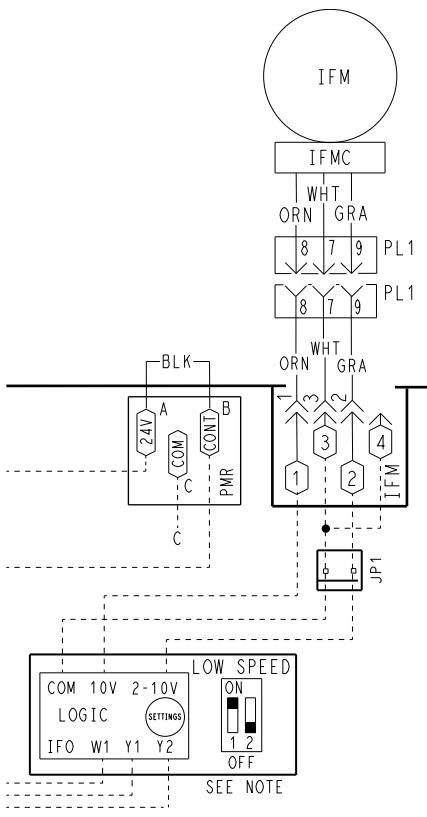
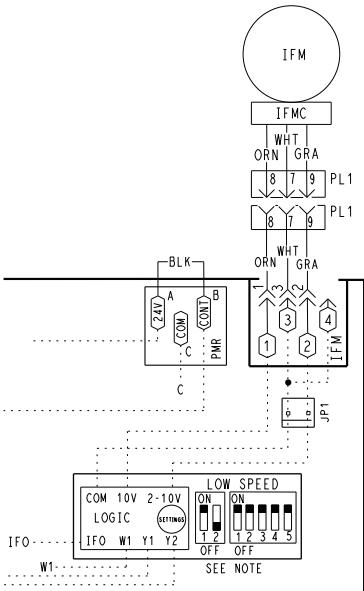

Fig. 12 — Supply Fan Control Wiring Diagram (3 Phase Units)
Fig. 13 — Supply Fan Control Wiring Diagram (Single Phase Units)
8. Check for proper motor control voltage signal of 9.7Vdc to 10.3Vdc at IFM-1 and IFM-3 on Unit Control Board (UCB). See Fig.12 for 3 phase units and see Fig. 13 for 1 phase units.